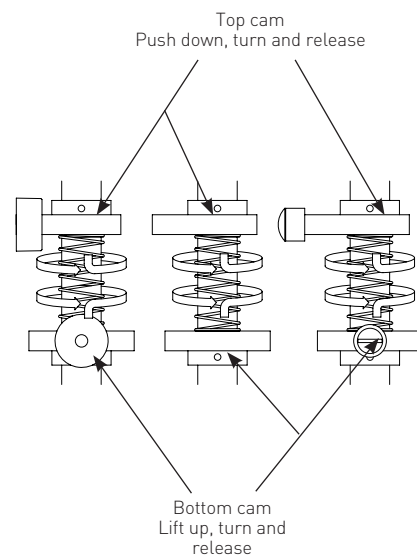

Figure 3
**2.5** To set the switches, lift the bottom cam and turn until the switch has activated and then release. The spring will push the cam back onto the splined shaft (Figure 3).
**2.6** Stroke the actuator to the opposite end of travel. Set the top cam by pushing down and turning the cam until the switch is activated (Figure 3).